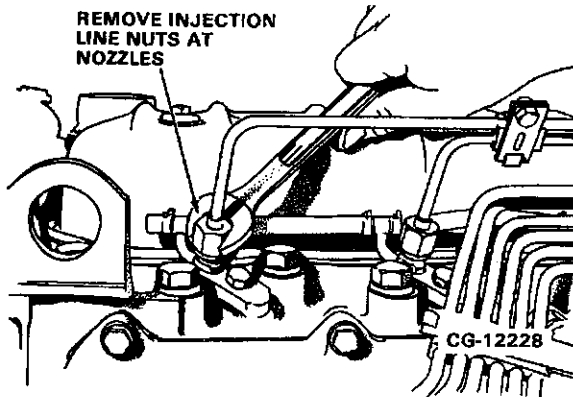

Figure 11.53. Remove Injection Line Nuts at Nozzles
1. Using a 3/4 in. wrench, loosen the six fuel injection line nuts at the nozzles. Refer to Figure 11.53.